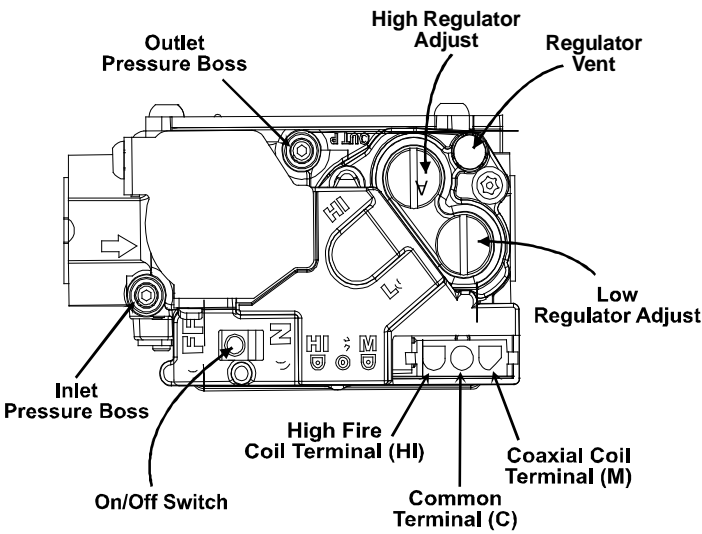

FIGURE 2
- Using a 3/32" Allen wrench, loosen the inlet pressure tap screw one (1) turn only (DO NOT REMOVE). Attach a 5/16" hose to the inlet pressure tap boss. Connect the other end of the hose to a manometer capable of reading pressure of 0 to 20 inches water column (see Figure 2).